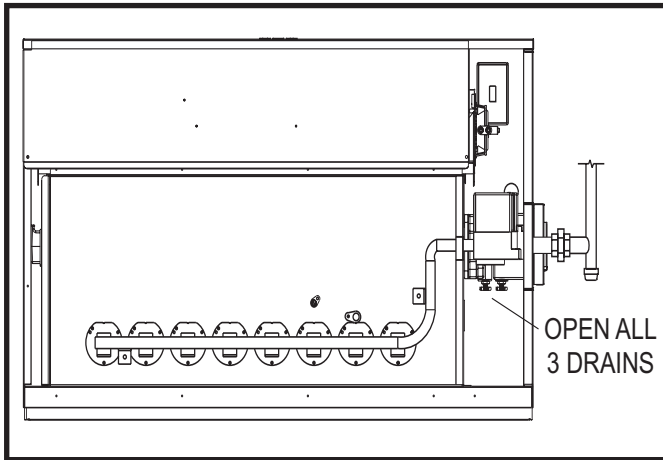

FIG. 59 Drain Locations
- (d) Remove the lower side jacket panel below the water connections (Figure 59).